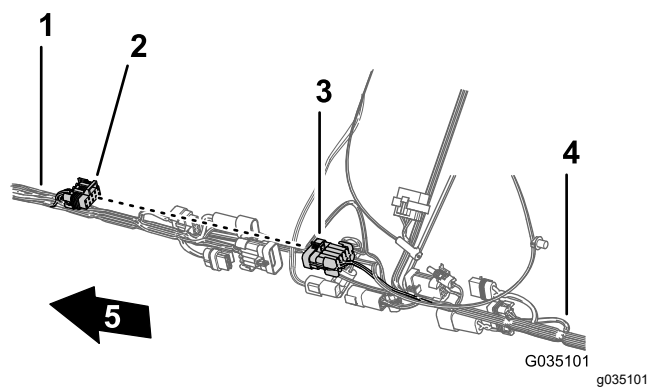

Figure 73
2. Connect the 10-socket connector of the front harness for the spray-harness interconnect into the 10-pin connector of the rear harness for the spray-harness interconnect (Figure 73).